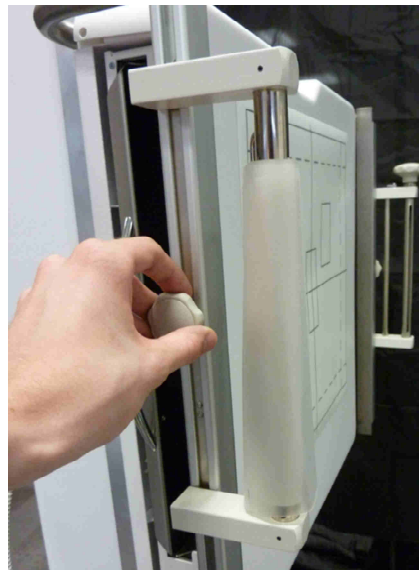

Figure 4-3
Step 2: Insert the fixed stretching roller into the support rail on the left side and fix it at the same height. Insert the compression band and pull it around the stretching roller (Figure 4-3).